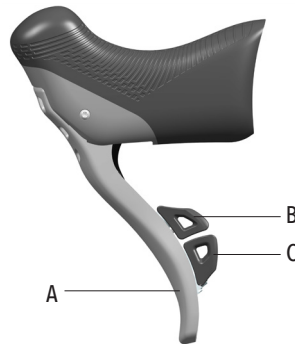

Fig.7
- A - Brake lever (Fig.7)
- B - Upper lever (Fig.7)
- C - Lower lever (Fig.7)
Moving the lever A (Fig.7) operates the brake: check which wheel corresponds to which lever by operating each of these one at a time.